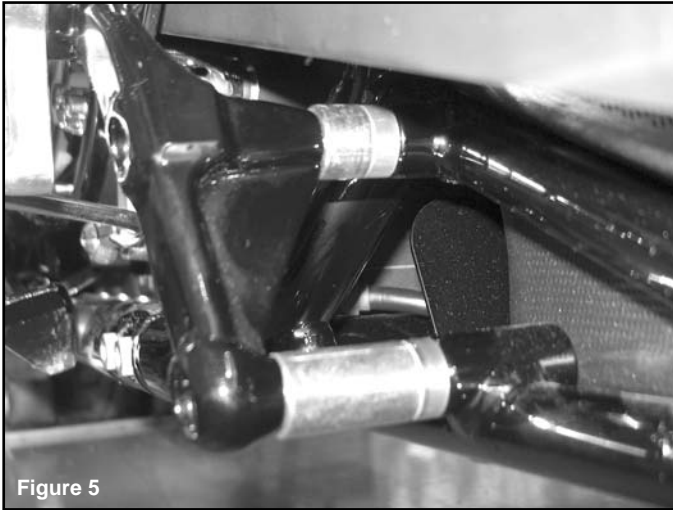

Figure 5
Remove the (2) bolts that hold the left front footpeg bracket on. Install the supplied 8mm x 1.25 x 70mm shcs through the top hole of the footpeg bracket, the short stock spacer, (1) of the supplied .270 thick spacers and into the top threaded frame hole using thread locker and tighten. Install the supplied 8mm x 1.25 x 60mm shcs through the bottom hole of the footpeg bracket, the long stock spacer, (1) of the supplied .270 thick spacers and into the bottom threaded frame hole using thread locker and tighten. See figure 5.